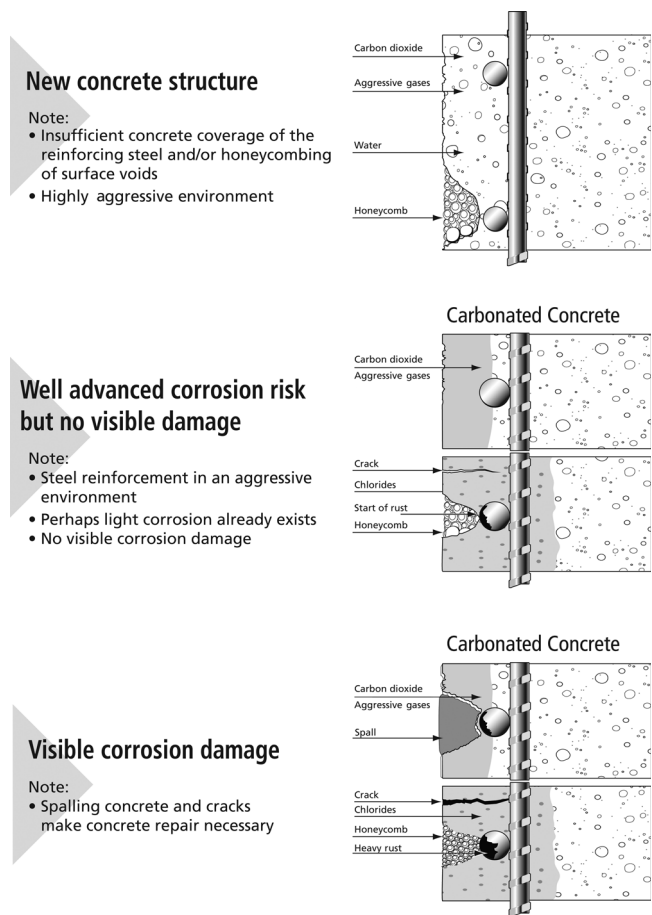

Fig. 2—Concrete with chloride and CO2 penetration and corrosion.
- Water can combine with chloride ions, acid rain, or aggressive gases to accelerate corrosion of the reinforcement, as in Fig. 2.